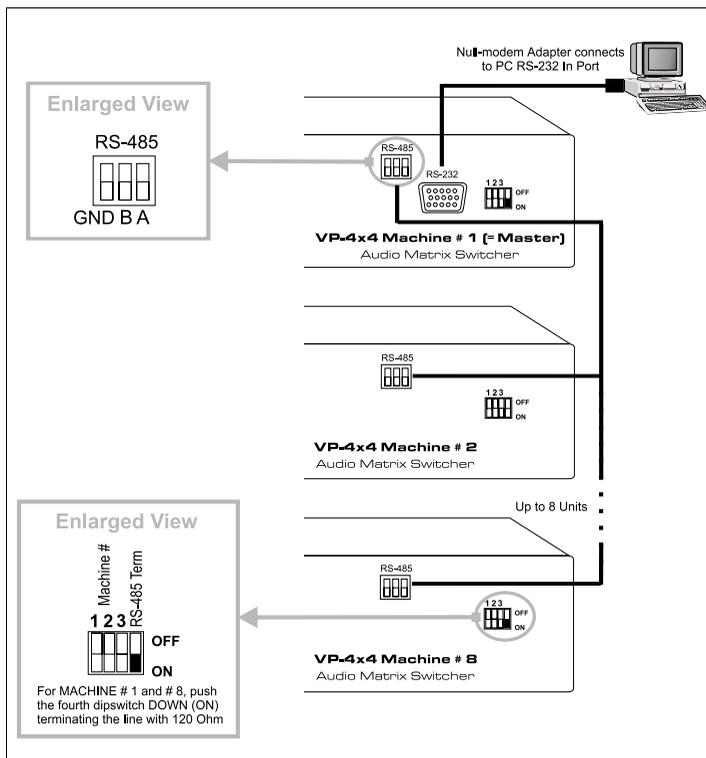

Figure 3: VP-4x4 Connections
- Connect the RS-232 DB9 rear panel port on the Master **VP-4x4** unit to the Null-modem adapter and connect the Null-modem adapter with a 9 wire flat cable to the RS-232 DB9 port on your PC, as Figure 3 illustrates
Connect a Phoenix terminal block cable connector to the RS-485 port on each VP-4x4 unit in the series1, as Figure 3 illustrates.
The VP-4x4 includes a set of 4 dipswitches, as Figure 3 illustrates above. You configure each VP-4x4 unit by setting the dipswitches as follows: